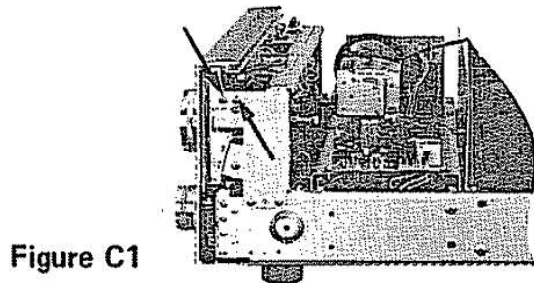

Figure C1
- b) Remove four screws from the Front Panel – two screws from the left side and two screws from the right side . (Figures C1, C2)